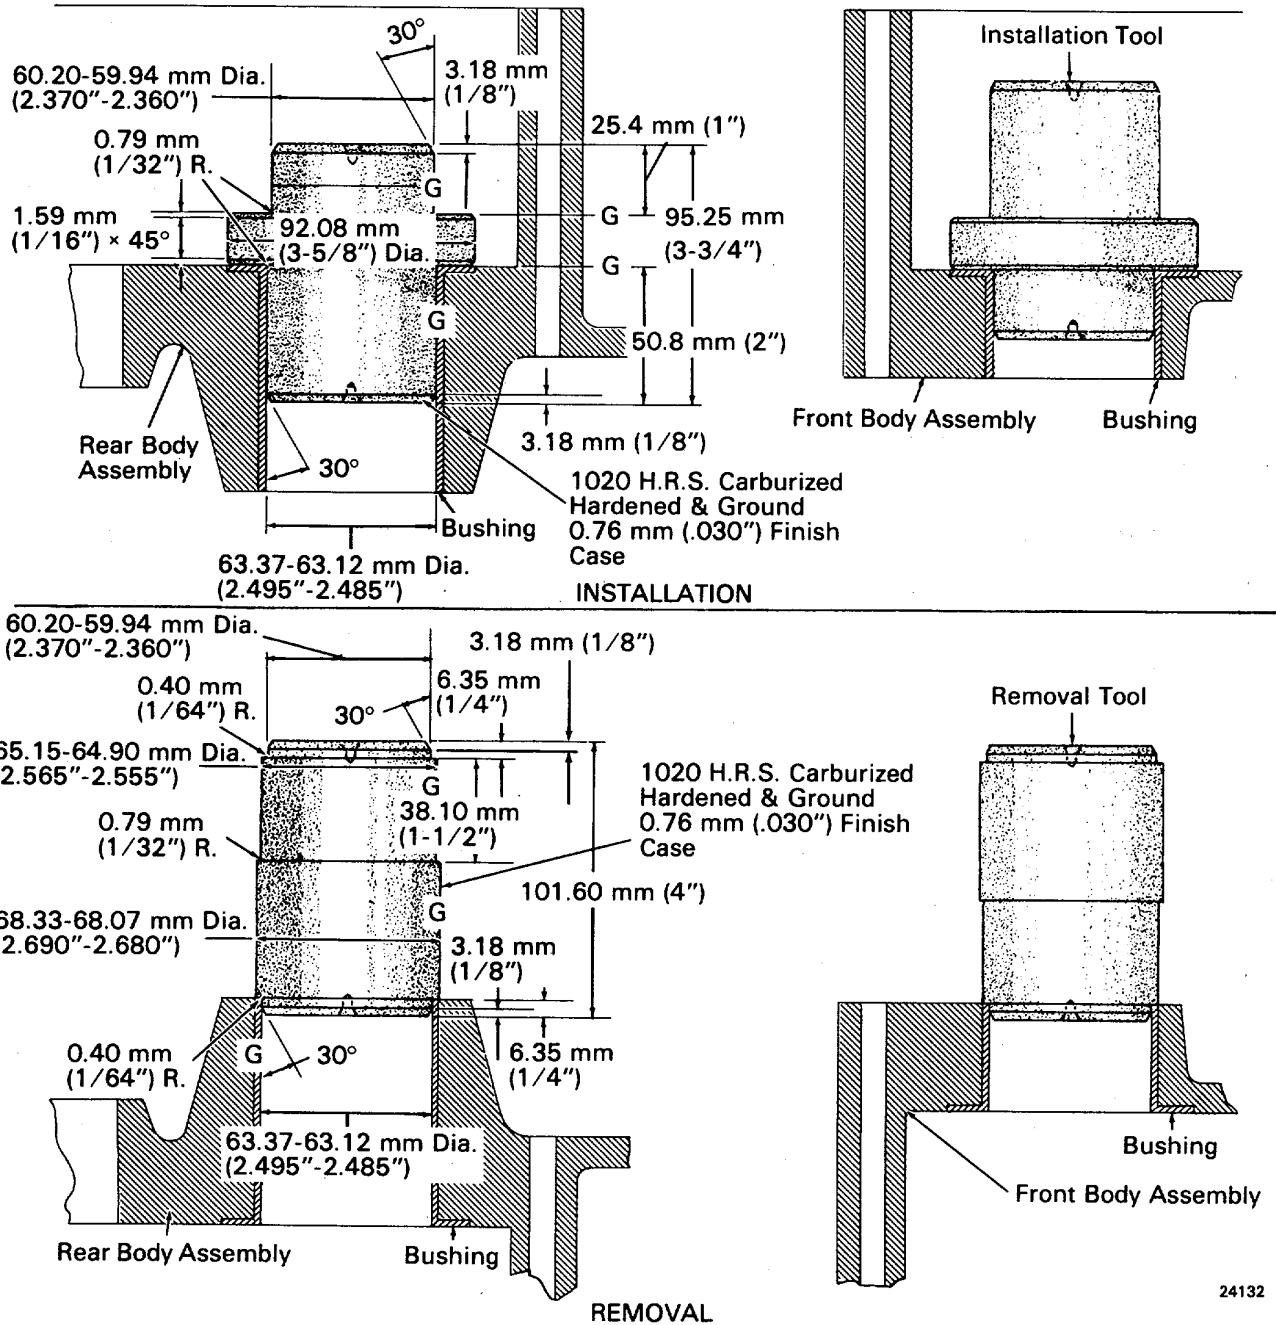

Fig. 9-13 - Oil Pump Body Bushing Tools
- Replace the bushings if any other adverse conditions exist. Details of construction and application of bushing installation and removal tools are shown in Fig. 9-13.